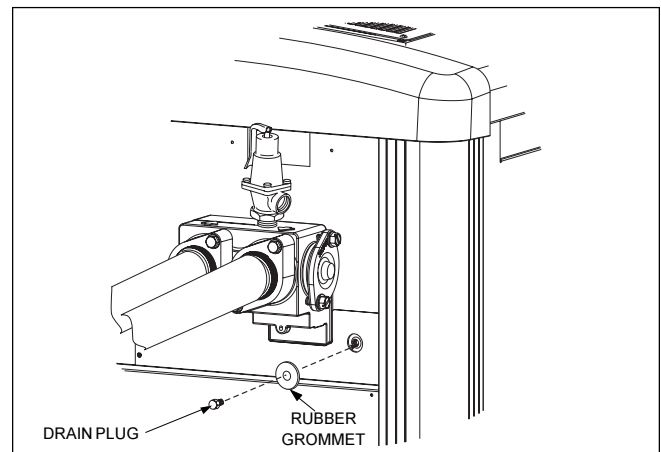

Figure 29. Draining the Heater
4. Remove the drain plugs from both the inlet/outlet header and the return header (see Figure 29), and completely drain the heater before the first frost.